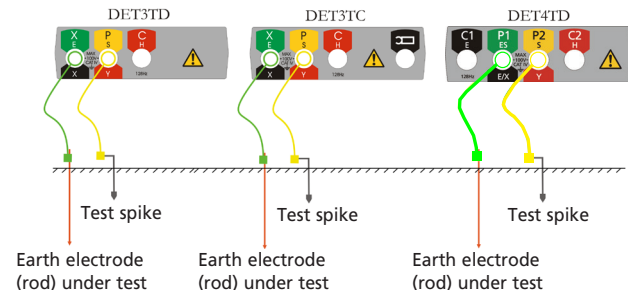

Figure 2: Connections for measuring ground noise voltage and two-terminal resistance.
1. With the selector switch set to the 'OFF' position, connect the instrument as shown in Figure 2.
1. With the selector switch in the 'OFF' position connect the instrument as shown in Figure 2, but connected to the part of the installation you wish to test